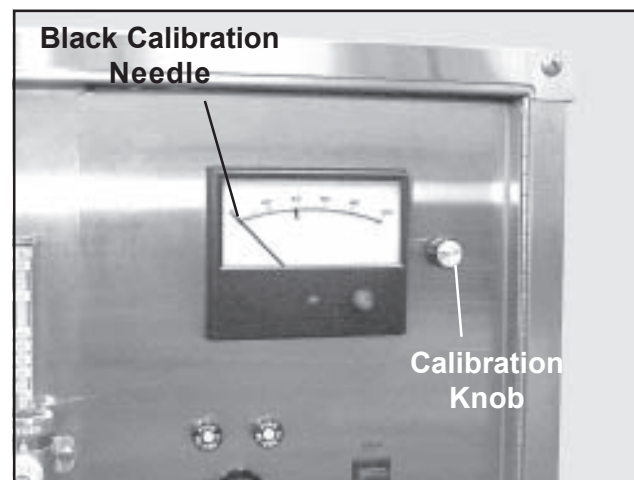

Figure 39. Oxygen Concentration Meter and Calibration Knob
Note: Watch the oxygen concentration meter (Figure 39) as you perform *Step 4*. The black calibration needle moves to the right, then settles down.
3. Using the calibration knob (Figure 39), position the black needle in the oxygen concentration meter to 20.5% (the percentage of oxygen in atmospheric air).